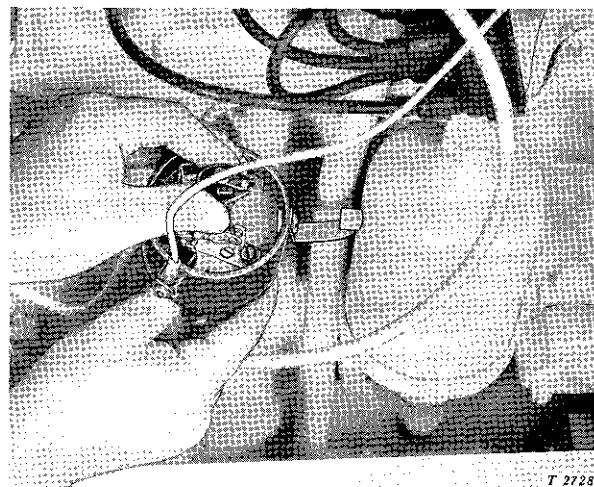

Fig. 40-10-8—Timing Delco-Remy Distributor
4. On Delco-Remy distributors, remove distributor cap and dust cover. Install distributor rotor and turn it counterclockwise as far as possible. While holding rotor in this position, rotate distributor body slowly until points are just beginning to open (Fig. 40-10-8).